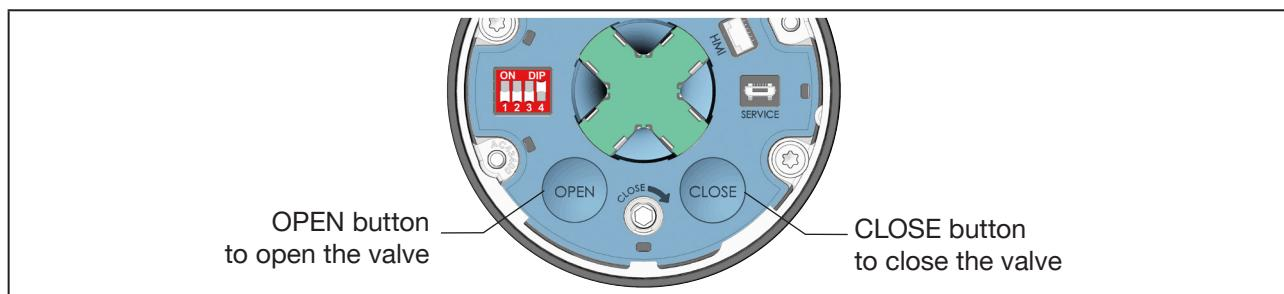

Fig. 41: Electrical manual override for devices
- Open and close the valve using the OPEN and CLOSE button (see “Fig. 41”).